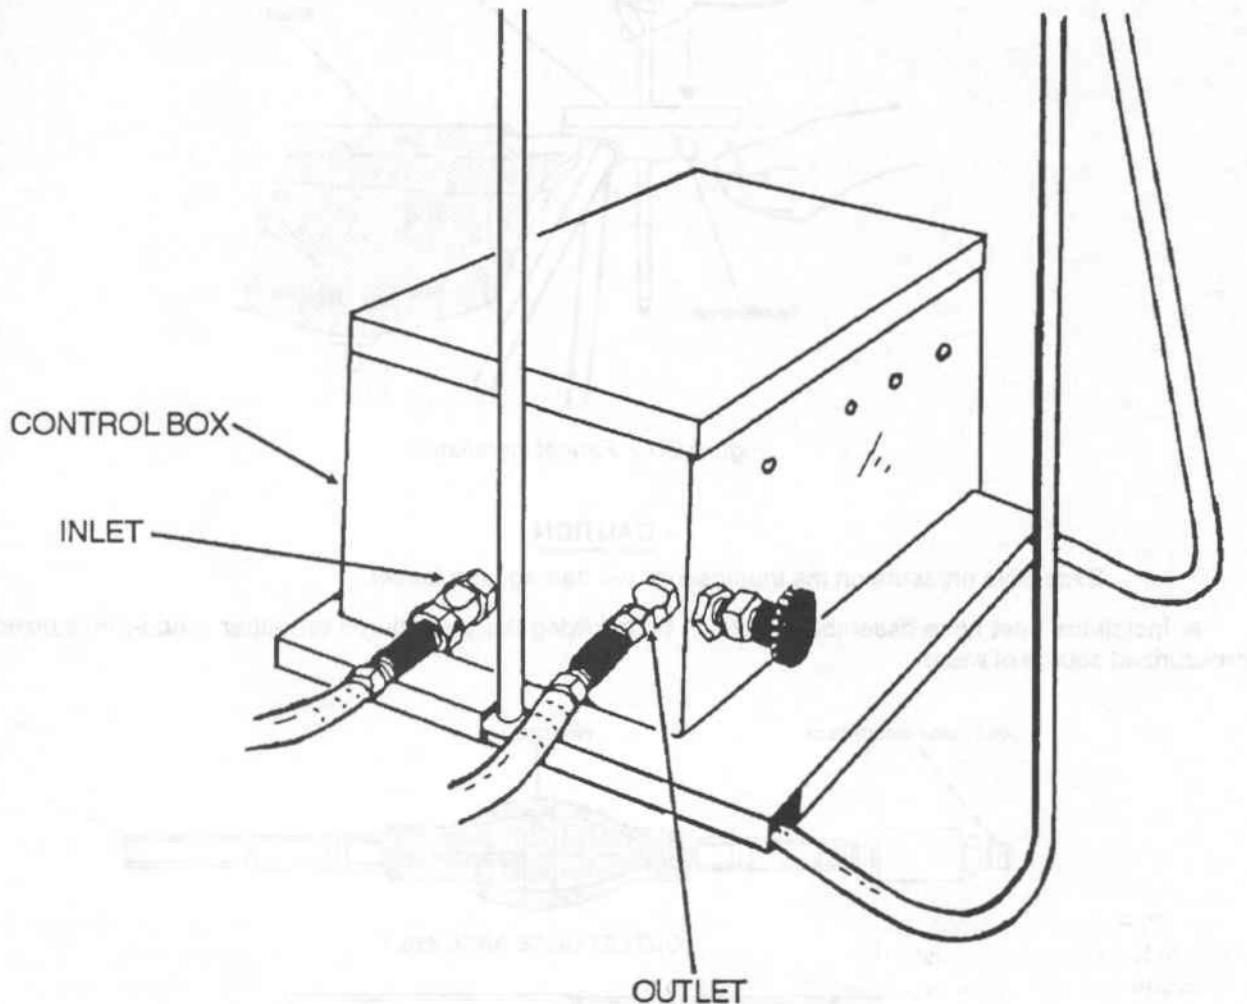

Figure 2-12. Inlet and outlet connections.
(2) **Pressurized water source.** Depress the quick-disconnect collar and remove the adapter assembly from the inlet hose assembly. Install the adapter assembly onto the inlet connector of the control box (fig 2-12). A 3/4 inch water hose can now be connected directly to the control box eliminating the need for a potable water can.
- i. Install the outlet hose assembly by connecting the male quick-disconnect on one end to the female outlet on the control box (fig 2-12). Then, slide the opposite end of the outlet hose assembly over the barbed fitting on the faucet (fig E-5).
- e.* Depress the quick-disconnect collar and remove the adapter assembly from the inlet hose assembly. Install the adapter assembly onto the inlet connector of the control box (fig 2-12). A 3/4 inch water hose can now be connected directly to the control box eliminating the need for a potable water can.